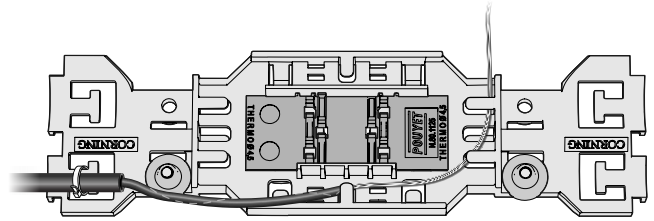

Figure 6 Slide the braiding tubing inside the tether cable
Step 3: Place braided tubing on tether ribbon. After placing tether into OSC30 tray, slide tubing into the cable as shown in Figure 6.